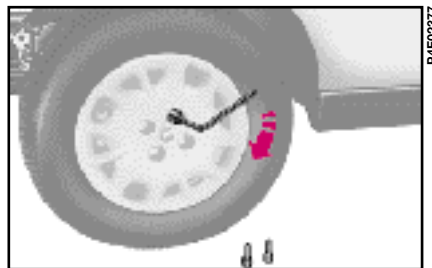

fig. 9
11) Fit the last three bolts and tighten them using the wrench provided, fig. 9.